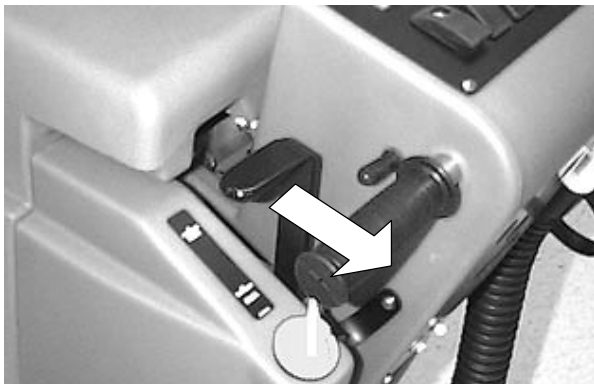

FIG. 3
2. Pull back on squeegee lift lever to raise the squeegee mount bracket (Figure 3).